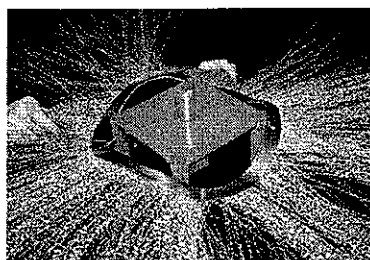

figure 4
- b. Install a second section with drive pins rotated 180° from those on the first section. (figure 4)